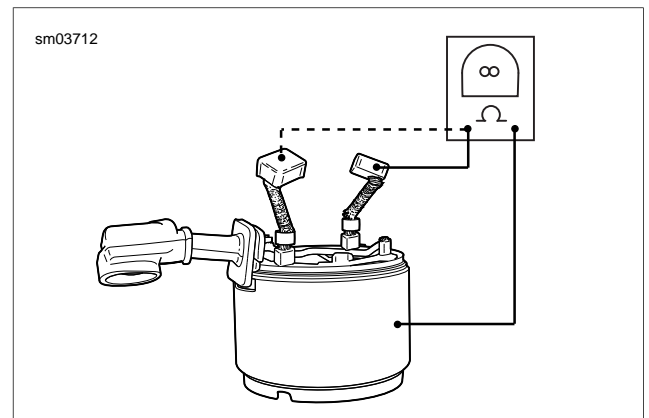

Figure 5-6. Grounded Field Test
3. See Figure 5-6. Check for a GROUNDED FIELD COIL WINDING with an ohmmeter or continuity tester.